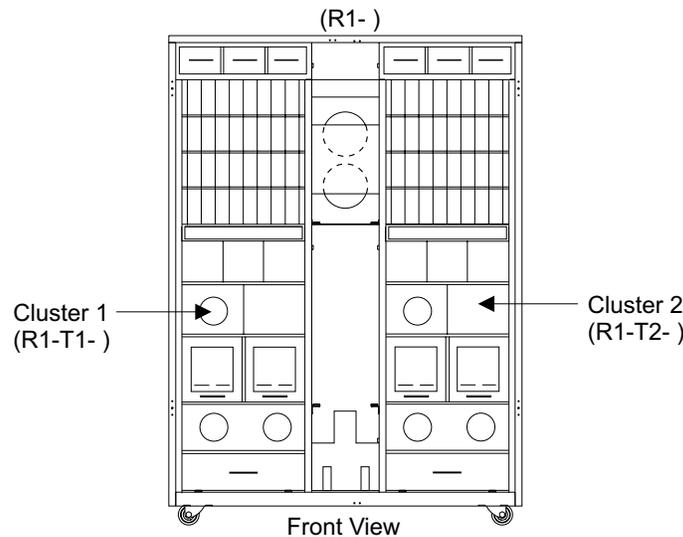

Figure 207. 2105 Model E10/E20 Cluster Bay Locations (S008091m)
1. Open the front cover of the 2105 Model E10/E20 rack and locate the cluster bay with the cluster bay cable you are replacing, see Figure 207 on page 197.